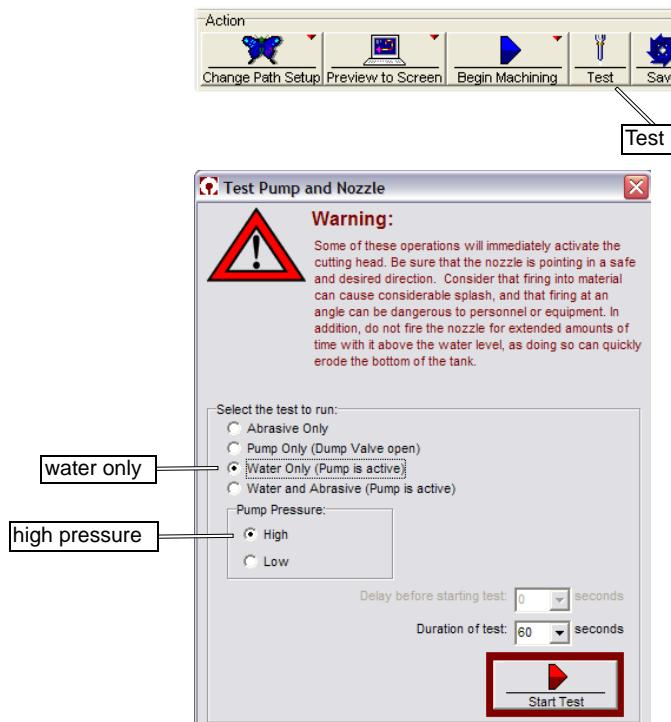

Figure 6-108: Flushing the System with Water Only at High Pressure
9. Following installation, test nozzle operation using high-pressure water only. Refer to Figure 6-108.